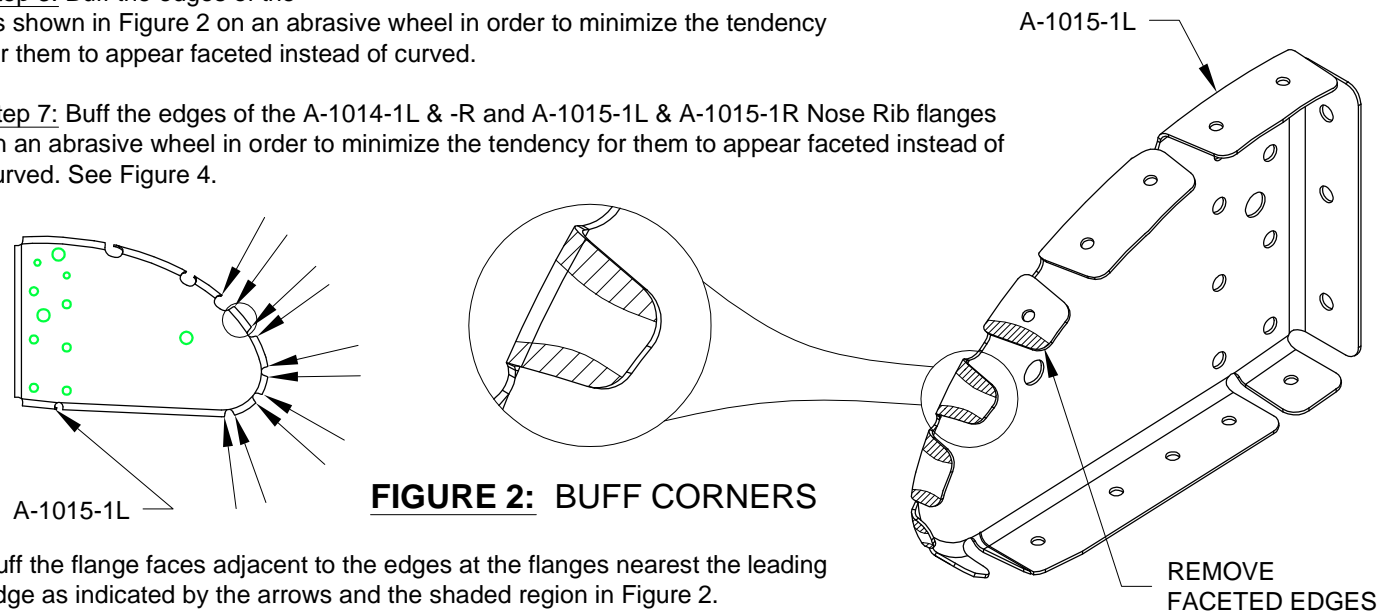

FIGURE 2: BUFF CORNERS
Step 3: Buff the edges of the as shown in Figure 2 on an abrasive wheel in order to minimize the tendency for them to appear faceted instead of curved.
Buff the flange faces adjacent to the edges at the flanges nearest the leading edge as indicated by the arrows and the shaded region in Figure 2.